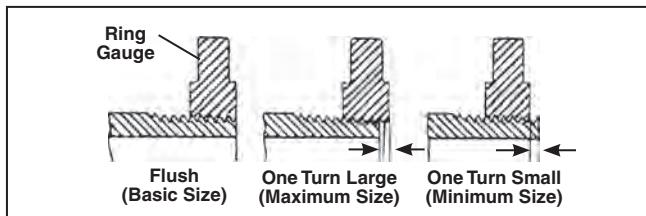

Figure 25 – Checking Thread Size
- Look at how far the pipe end extends through the ring gauge. The end of the pipe should be flush with the side of the gauge plus or minus one turn (*Figure 25*). If thread does not gauge properly, cut off the thread, adjust the die head and cut another thread. Using a thread that does not gauge properly can cause leaks.